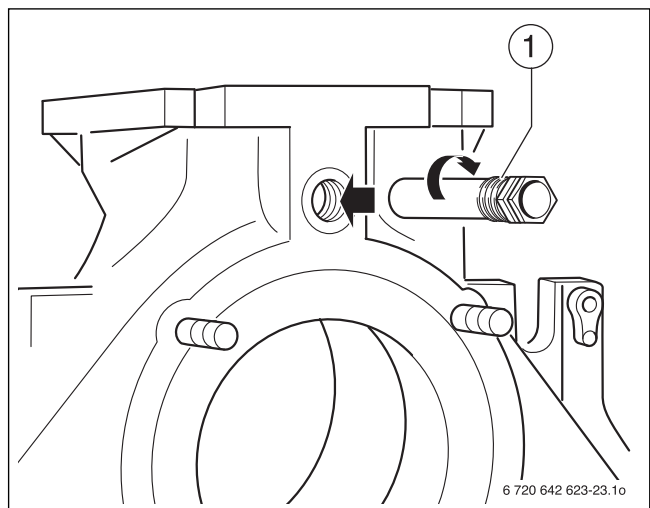

Fig. 25 Fitting the sensor well
- ▶ Seal and install the sensor well R ¾ from the rear of the boiler (length: 110 mm) into the R ¾ tapped hole of the supply connection (→ Fig. 25, [1]).